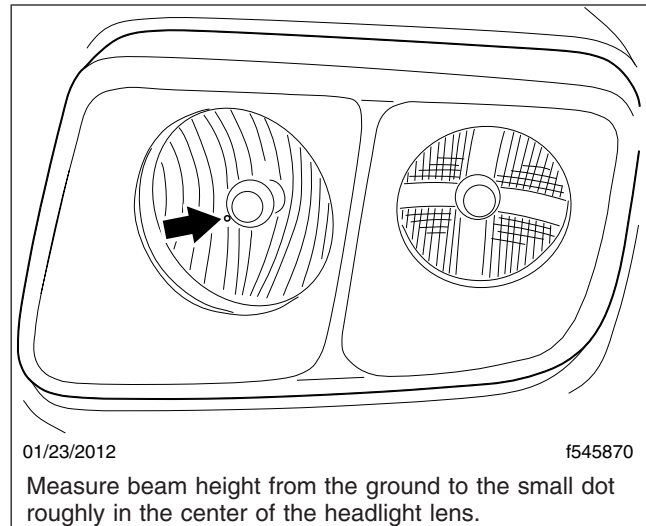
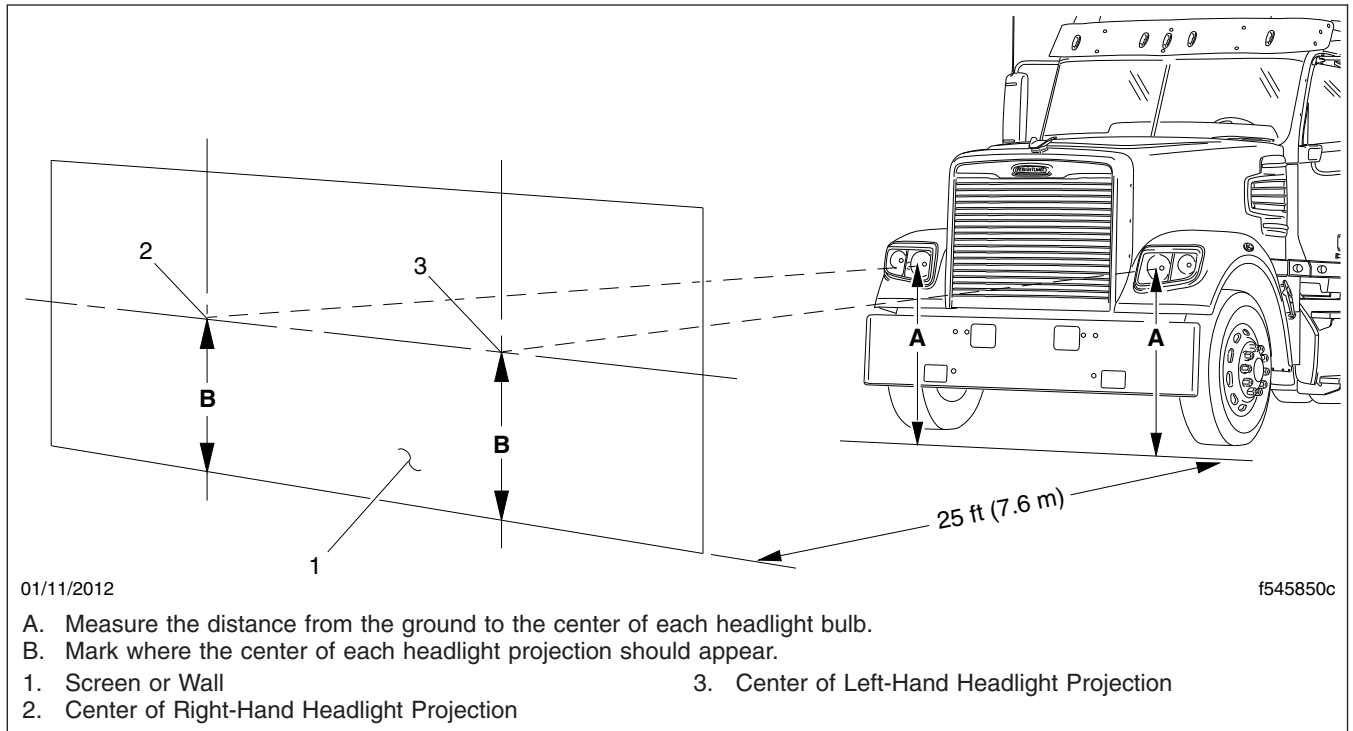

Fig. 22.1, Headlight Beam Height Adjusting Dot
Fig. 22.2, Headlight Aiming Screen/Wall
2. Each headlight has a height adjusting dot. See Fig. 22.1. Measure the distance from the ground to the height adjusting dot on each headlight (Fig. 22.2, Item A). Note those distances.
3. On the screen or wall, mark the locations of each headlight bulb center using the distances found in step 2. See Fig. 22.2, Items 2 and 3.